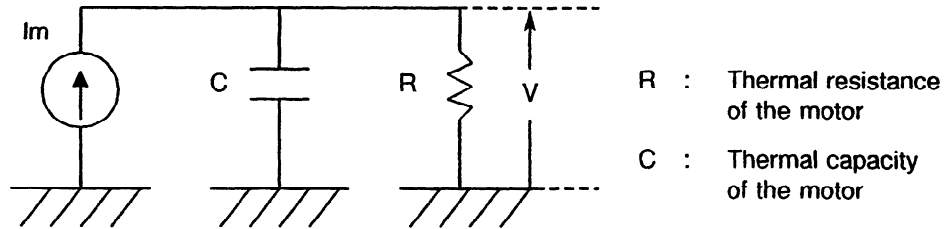

Fig. 7.3.4 (a)
The model shown in Fig. 7.3.4(a) below is used to explain the generation of heat by the motor.
Differential equation ① below applies to Fig. 7.3.4(a).